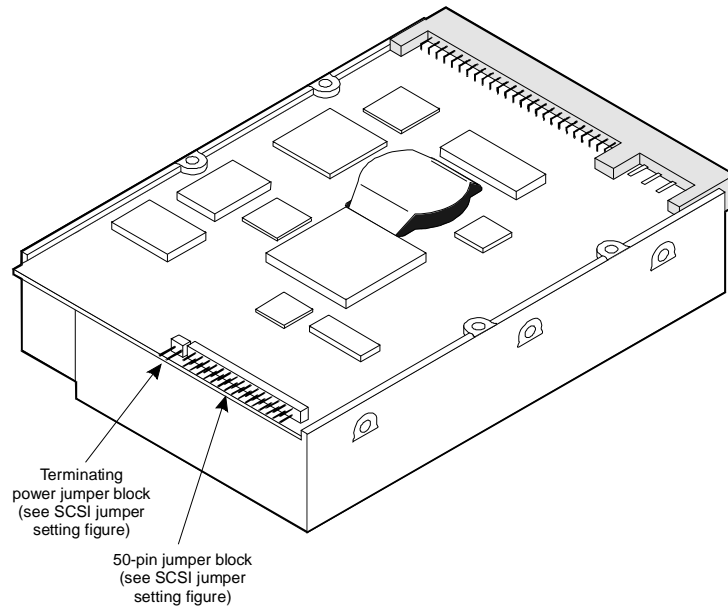
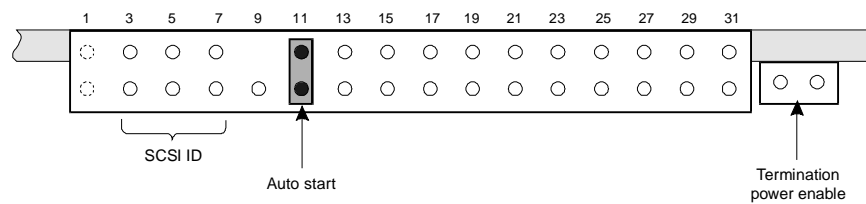
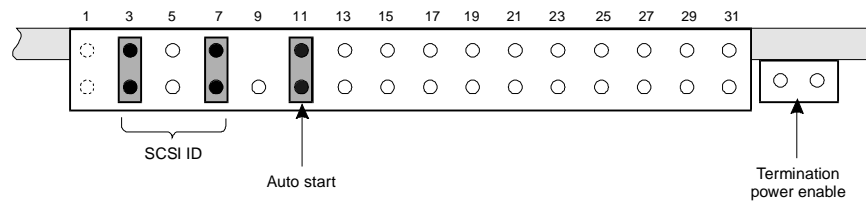

Figure A-16. Jumper Locations on the 2-Gbyte SCSI Hard Disk Drive (Comcode 407340942): Type A
Figure A-17. Type A: Jumper Settings for the First 2-Gbyte Disk Installed; Bay 1, SCSI ID = 0
Figure A-22. Type A: Jumper Settings for the Sixth 2-Gbyte Disk Installed; Bay 4, SCSI ID = 5
- n Figure A-16 shows the location of the jumpers on the 2 Gbyte Type A SCSI hard disk drive (Comcode 407340942). Figure A-17 through Figure A-22 show the jumper settings.